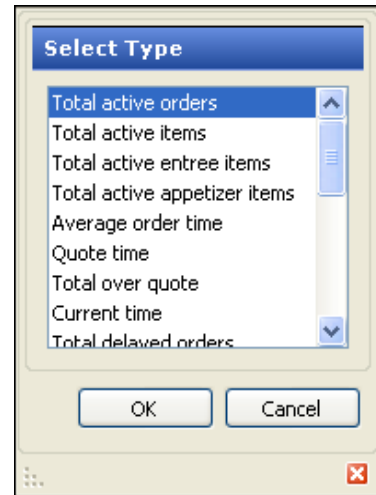

Figure 22 Select Type (Metrics)
2. Click the **New drop-down arrow**, select a **metric** from the ‘Select Type’ dialog box, and click **OK** (Figure 22).